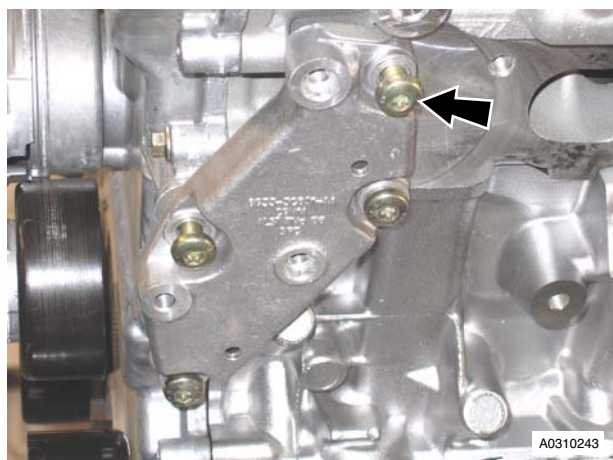

Figure 9
38. Remove the four Torx bolts that attach the PAS pump mounting bracket to the cylinder block. Remove the bracket (refer to Figure 9).